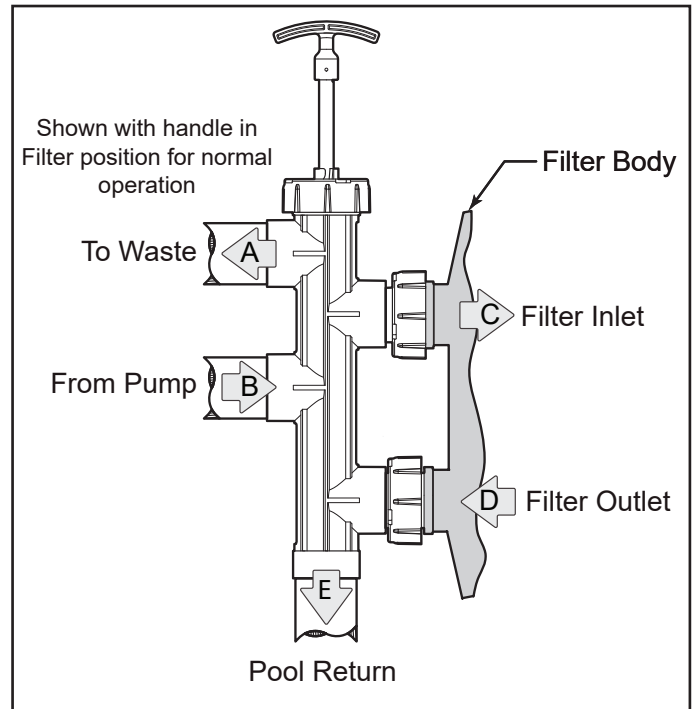

Figure 2. BWVL-SLD-75 Installed
9. Hold the slide valve upright and place onto the filter ports. See Figure 2.
8. Return the slide valve handle to the normal operating position. See Figure 2.